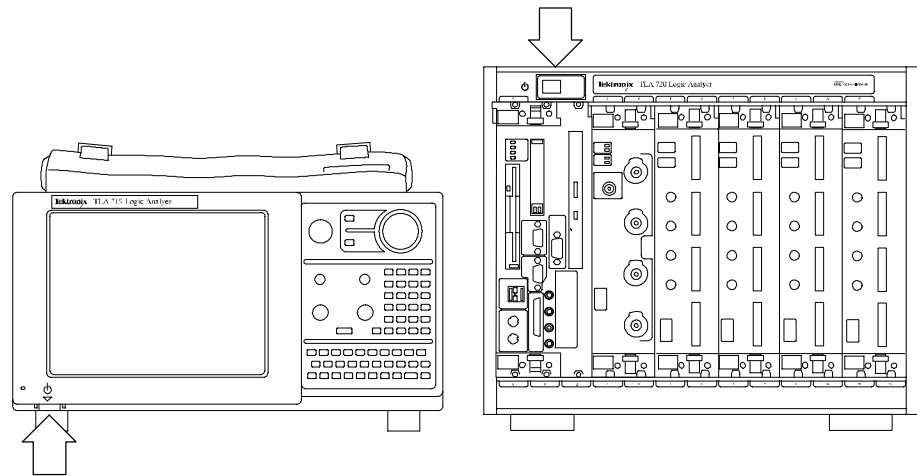

Figure 14: TLA700 On/Standby switch locations
4. Press the On/Standby switch to turn on the mainframe (see Figure 14 for the switch location).